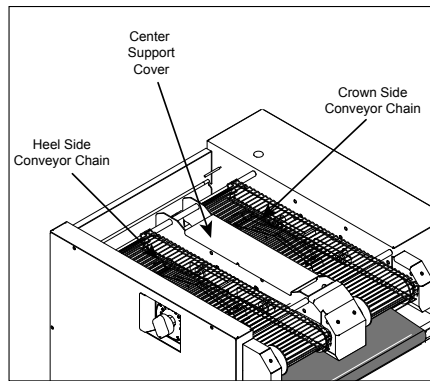

Figure 8. Conveyor Chain
8. If the Crown side chain can be pulled more than 1.5" (3.8 cm) above the top of the Center Support Cover (Figure 8), remove links as described.
10. If the Heel side chain can be pulled more than 2" (5 cm) above the top of the Center Support Cover (Figure 8), remove links as described.